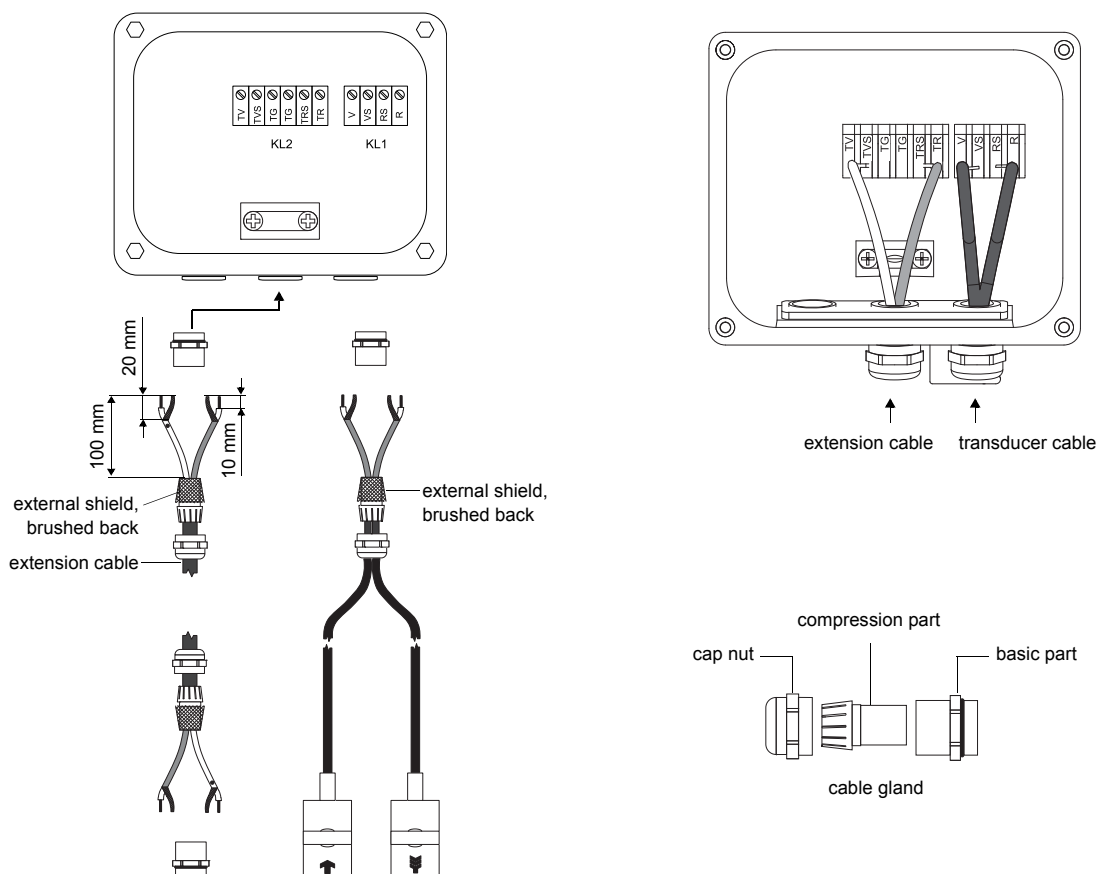

Fig. 7.6: Connection of the extension and transducer cable to the junction box JB01
- Remove the left blind plug for the connection of extension cable (see Fig. 7.6).
- Connect the extension cable to the terminals of the transmitter (see Fig. 7.6 and Tab. 7.2).
For the terminal assignment of the transducer cable see Fig. 7.6 and Tab. 7.5.